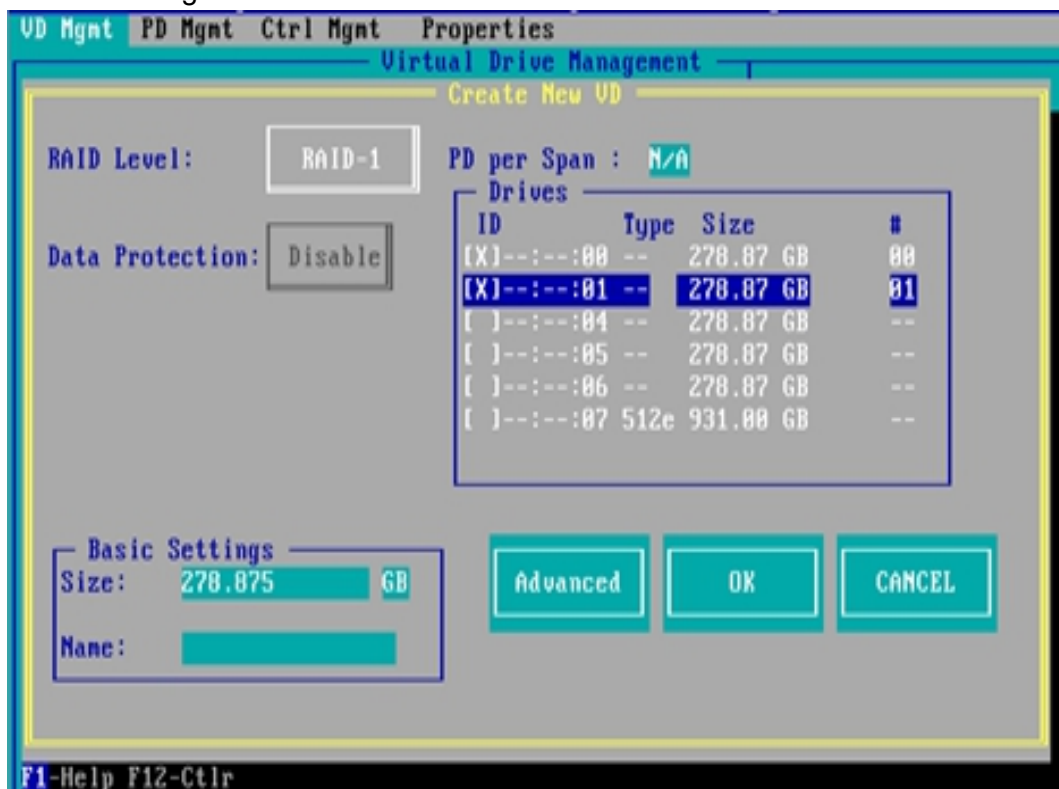

Figure 6-110
- e) Enter the interface shown in figure 6-110, select the disk to configure raid, and press enter.
✧ Figure 6-110 selecting disks